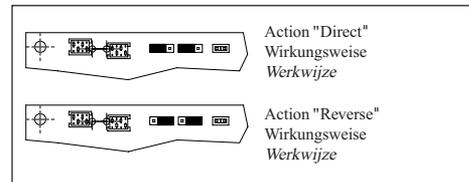

FIG. 10
3. Change the action jumper setting by setting both jumpers to the right side (see FIG. 10)
4. Change the action jumper setting by setting both jumpers to the right side (see FIG. 10)